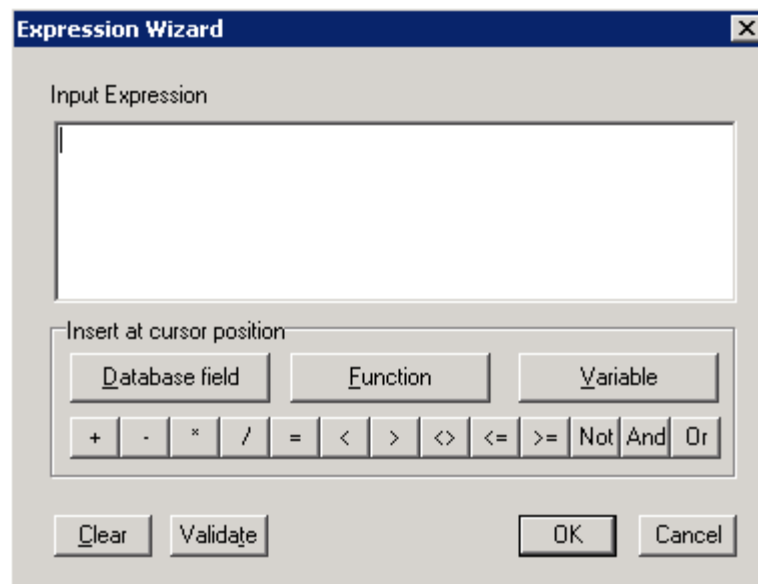

Figure 46 - Expression Wizard
8. The **Expression Wizard** (Figure 46) is displayed.